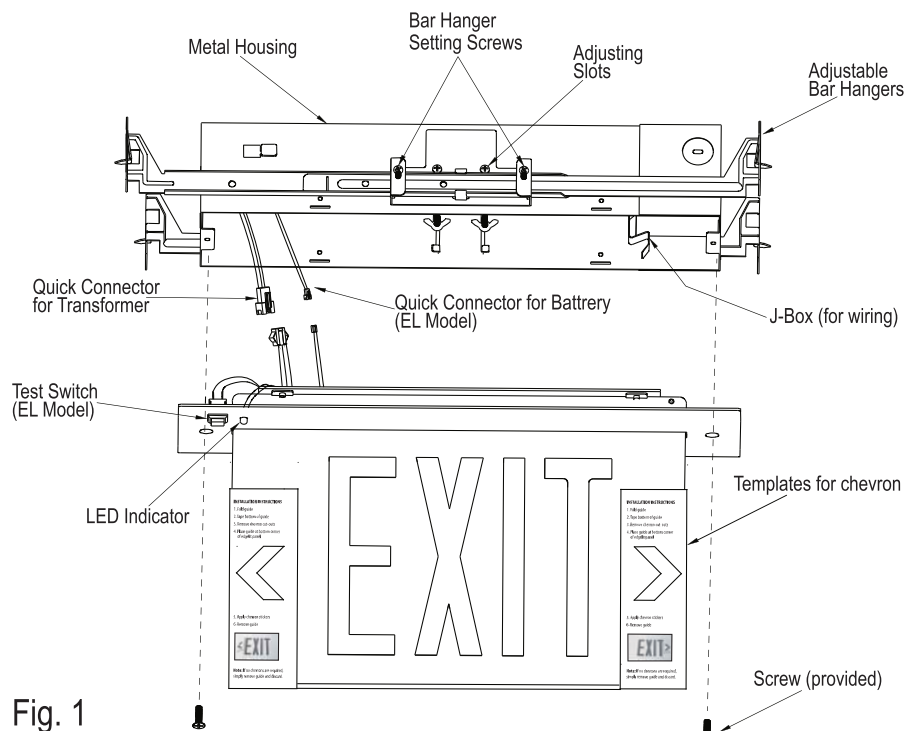

Fig. 1
1. See Figure 1 before beginning installation.